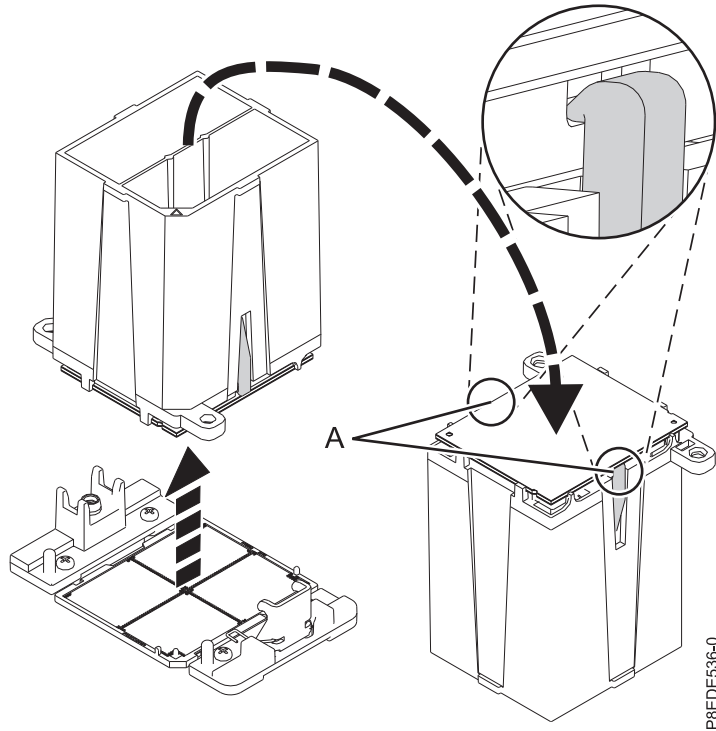

Figure 37. Preparing for system processor module installation
- a. Ensure that both jaws (**A**) are firmly grabbing the system processor module, as shown in Figure 37 on page 35.